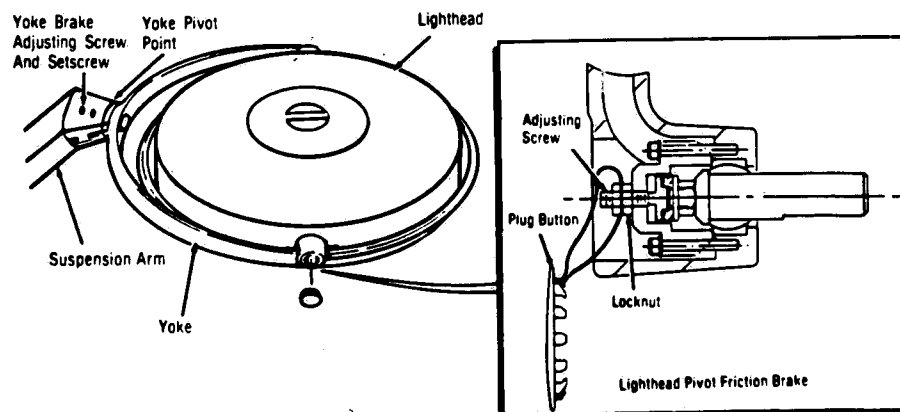

Figure 3-2. ADJUSTMENT OF PIVOT.
3.3.2 Inspect Rotation of Lighthead Within Yoke (See Figure 3-2)
3.3.3 Inspect Yoke Rotation About Suspension Arm (See Figure 3-2)